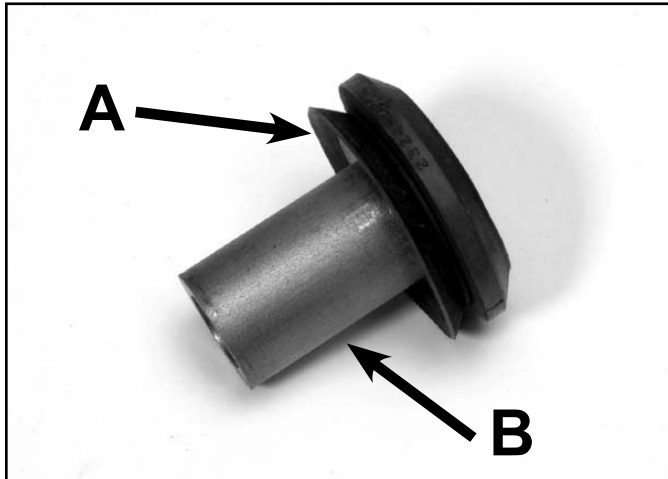

Fig 173
1. Check to make sure that the brake plate seal is in good condition, then stretch onto the brake plate bushing (Fig. 173).